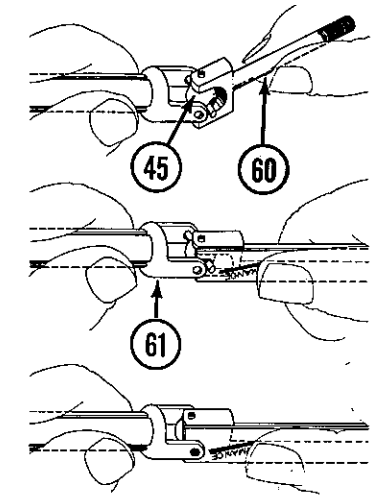

FIG. 25
13. Pry universal pivot joint (45) in rear axle (60) into the male drive shaft (61) U-joint using TEAM LOSS! wrench. Fig. 25.